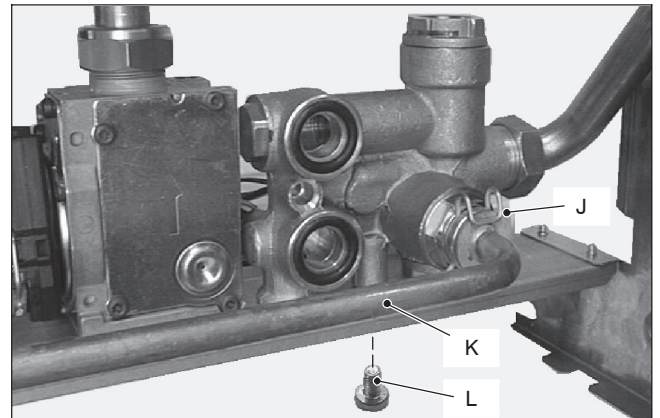

Fig. 6 Rear view of the boiler
- 8 Remove the fork J and move away the pipe K (Fig. 6).